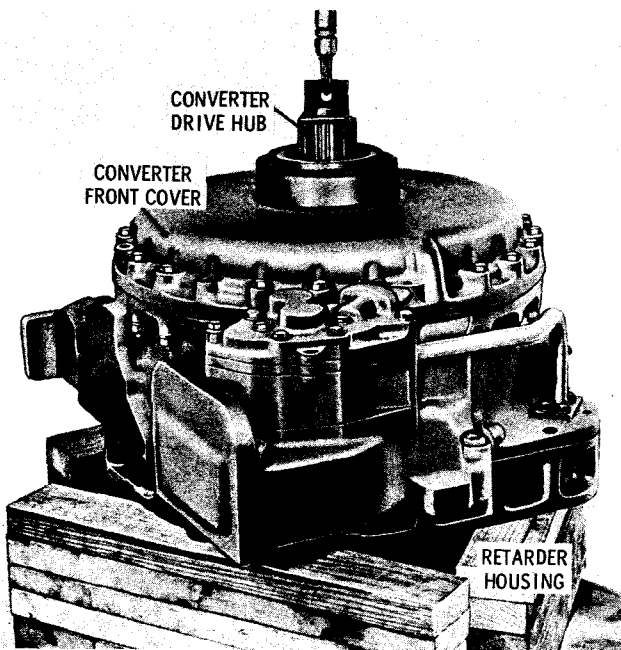

Fig. 5-12. Positioning torque converter and housing for disassembly
(3) Attach one strand of the lifting sling to the converter drive hub on remote-mount models (fig. 5-12). Lower the assembly onto wood blocks.